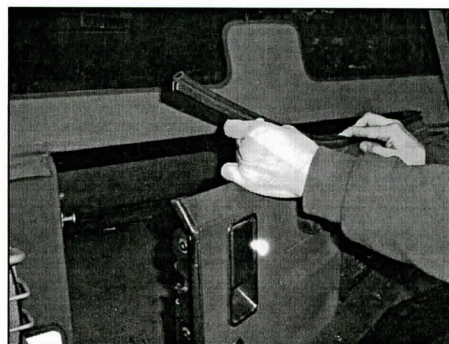

Figure 20
19. Locate the Channel on the Weather Strip and insert tailgate into channel (Figure 20). **NOTE:** Make sure the Weather Strip is fully engage to the tailgate before closing tailgate.